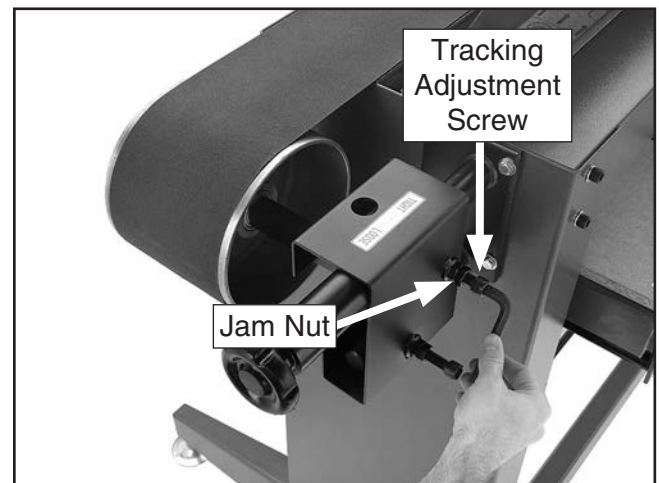

Figure 48. Belt tracking adjustment.
2. Loosen the jam nut on the belt tracking adjustment screw (**Figure 48**).